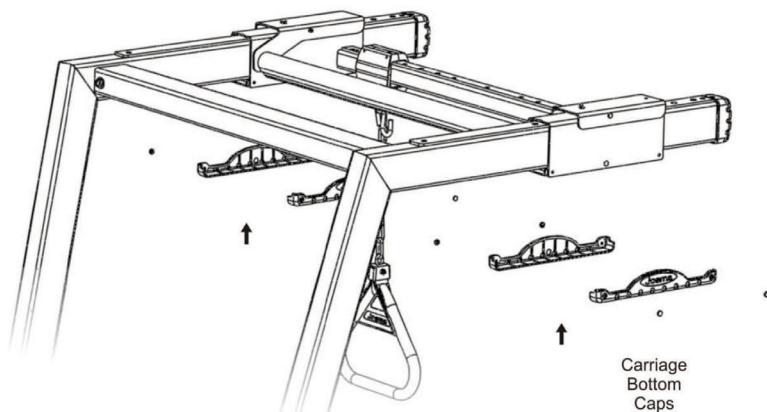

Figure 8
- Install carriage bottom caps (4) to the carriage assembly with (4) fasteners per side (see Figure 8).